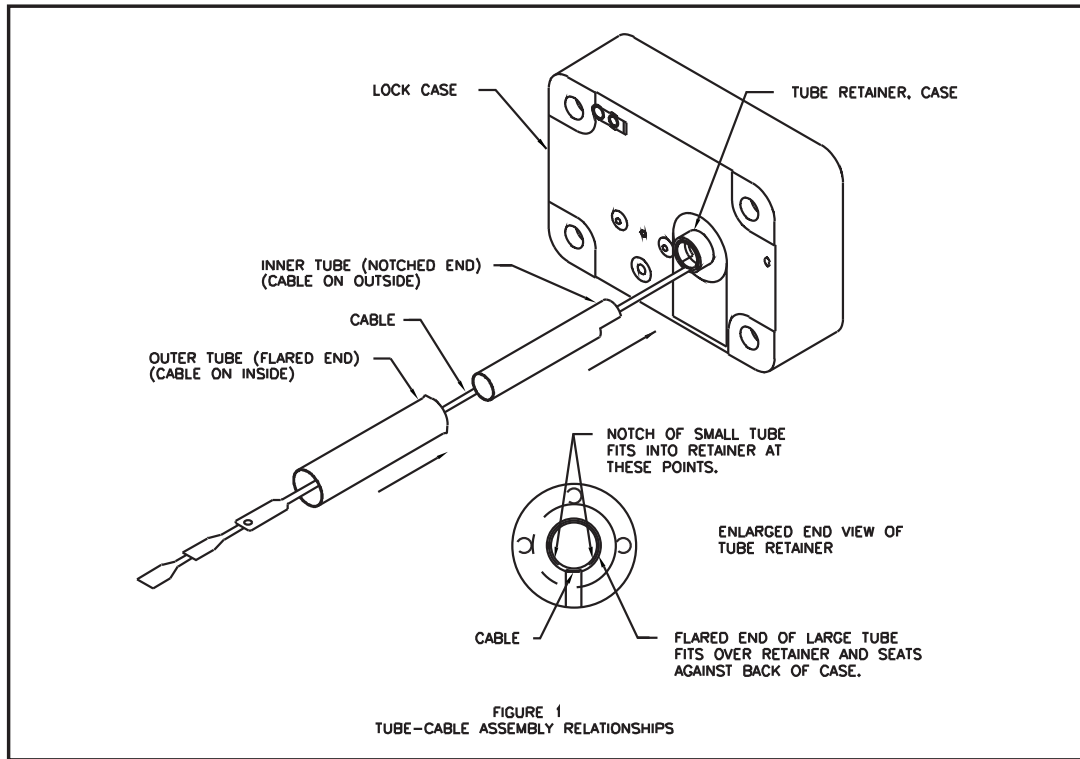

Figure 4- Tube-Cable Assembly Relationships
3. Feed the cables through the outer, larger, tube starting from the flared end of the tube. Seat the tube into position on the tube retainer on the back of the lock case assembly. (See Figure 4) Be careful to keep the cables pulled taut while seating the tube to avoid pinching damage to them.
2. Feed the cables through the outer tube from the flared end. Seat the tube into position on the tube retainer on the back of the lock case assembly. (See Figure 4 on page 4.) Be careful to keep the cables pulled taut while seating the tube to avoid pinching and damaging them.